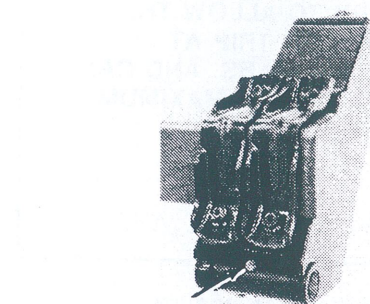

Figure 32
- (d) Remove cotter pin from retaining pin and remove retaining pin. See Figure 32.